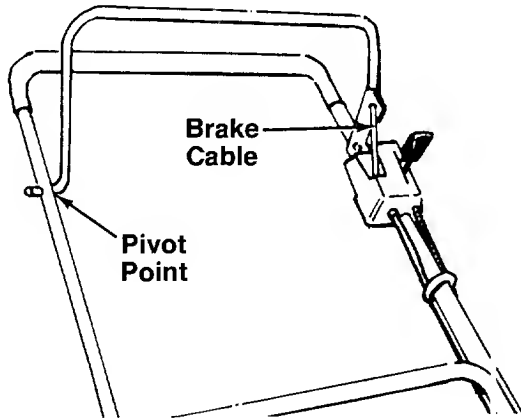

FIGURE 15.
The recoil starter handle is attached to the handle. See figure 15. Stand behind the unit in the operating position to start the unit.
**Blade Control**—Lubricate the pivot points on the blade control handle and the brake cable at least once a season with light oil. See figure 15. The blade control must operate freely in both directions.